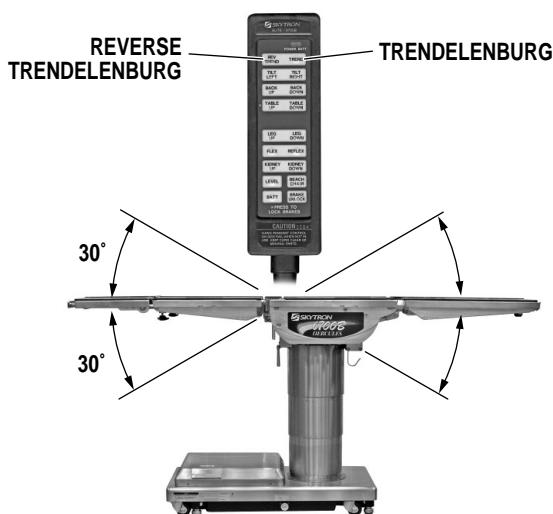

Figure 2-6. Trendelenburg Positioning
**b. Trendelenburg.** To place the table in a Trendelenburg (head down) position, press the TREND button (figure 2-6). To place the table in a reverse Trendelenburg (head up) position, press the REV TREND button. Trendelenburg positioning of up to 30° may be obtained if lateral tilt positioning is less than 20°.